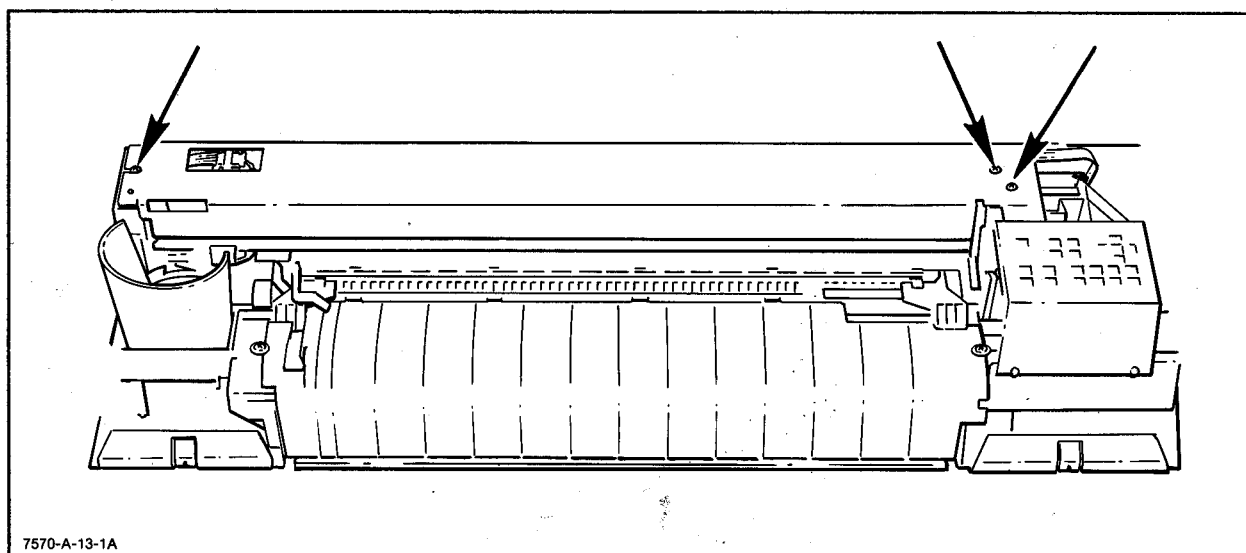

Figure 6-5. Center Cover Removal
- f. Remove the screws from each end of the center cover. See Figure 6-5.
- b. Remove the three screws in the center cover. See Figure 6-5.